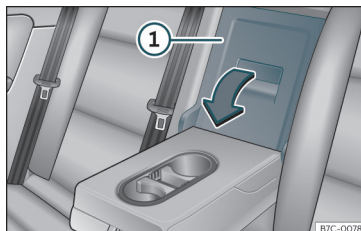

Fig. 139 On the rear seat backrest: opening the tailboard.
»» **Fig. 139** ① down and forwards.